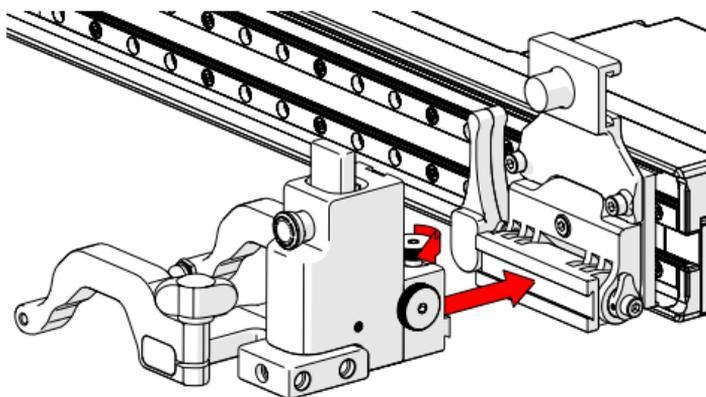

Fig. 113 - Mount probe holder to carrier
1. Loosen the probe holder adjustment knob (*Fig. 113*) and mount the heavy duty vertical probe holder's dovetail jaw to the raster arm pivot nose.